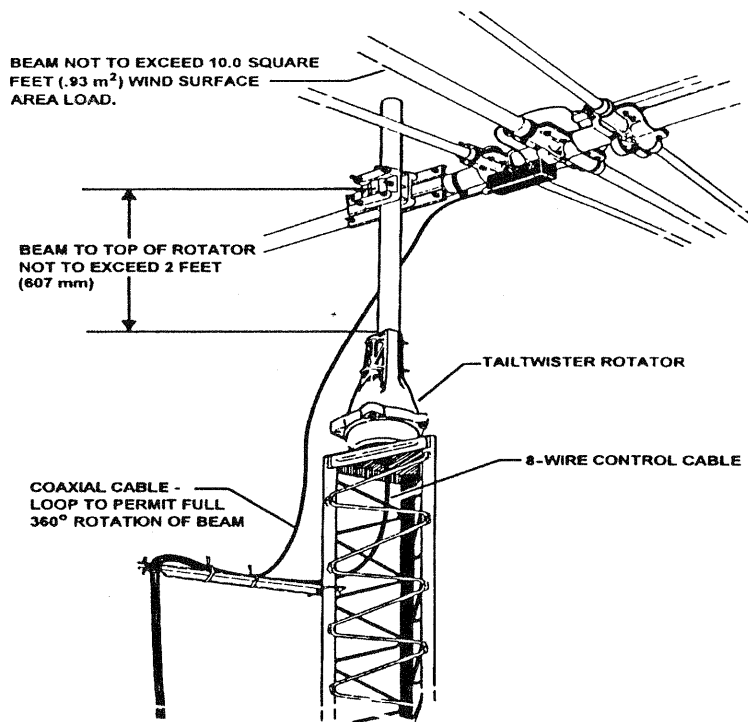

Figure 5
Referring to Figures 5, 6, and 7, an outside tower or pole mount is made in the same manner except that the rotator is fastened by four (4) bolts only (not six) to the Lower Mast Support, PN 5146710. Since the eccentricity of the rotator turning in reference to the tower is no longer important, the shimming procedure is not necessary. The four (4) screws must be torqued to the same specification and the 8-wire cable securely fastened. The lower mast should be pinned with the 5/26"-18 x 4" bolt as shown in Figure 6.
The stock Tailtwister T2X is intended to mount on the base plate inside of the tower. However, in some instances, outside tower or mast mounting is desired as per Figures 5 and 6. This kit, P/N 5146710 contains a heavy-duty lower mast support and the necessary hardware to facilitate mounting the T2X on top of a tower stub or mast.